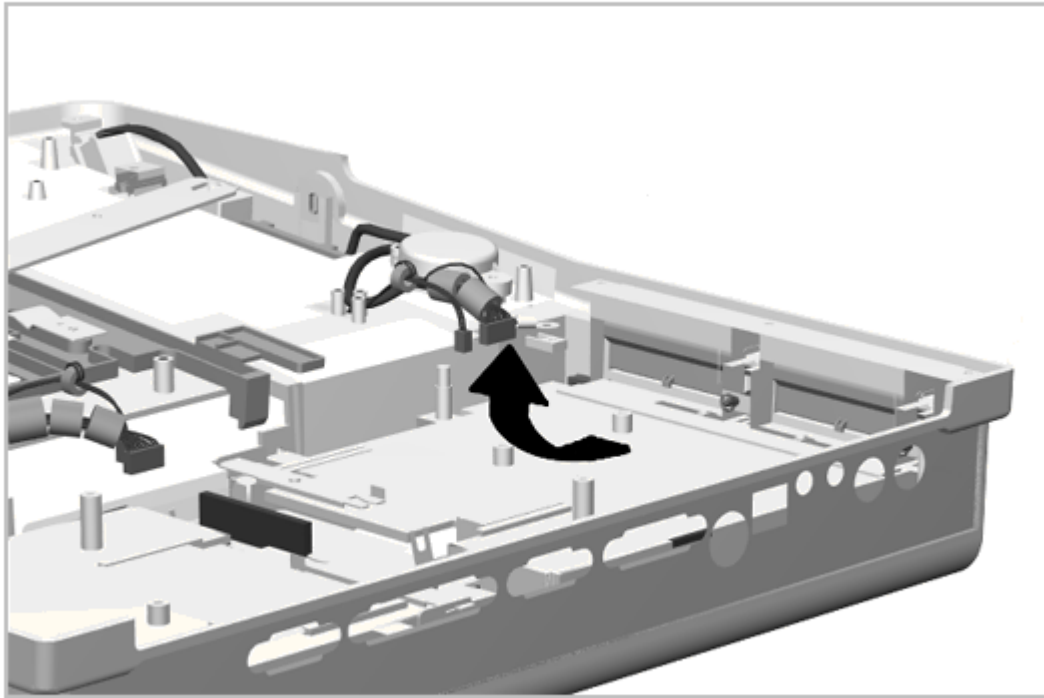

Figure 6-20. Removing the MultiBay Assembly
2. Begin lifting at the end of the assembly toward the MultiBay Connector Board and lift the MultiBay assembly out (Figure 6-20).